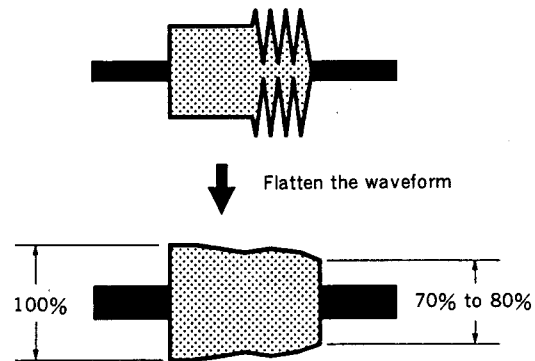

Fig. 3
- (3) Turn the No. 5 Guide clockwise and flatten the RF waveform at the exit side. (fig. 3)